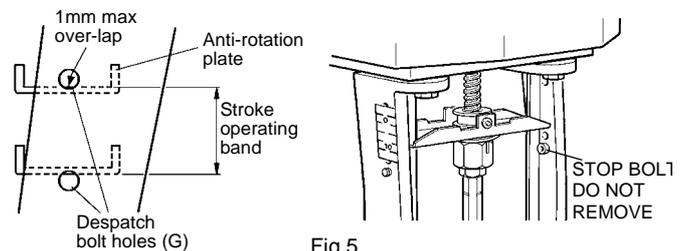

Fig.5
**ALL SPECIFICATIONS:** Whilst checking actuator travel over full valve stroke as detailed below, a visual check should be made to ensure that coupling-up to the valve is correct. The coupling anti-rotation plate must not be seen to over-lap the despatch bolt holes (G) by more than 1mm at either end of the stroke (Fig.5). If this is not correct, replace the despatch bolts (G), power fail, and repeat the appropriate fitting instructions given under 'Installation' on Page 5.
9. Whilst checking actuator travel over full stroke of valve, run actuator to fully retracted position. Select self-adhesive indication scale to match valve stroke, from set of three scales provided. Fix scale along outside edge of actuator mounting bracket, in position where it will be most clearly visible, lining up underside of anti-rotation plate on actuator spindle with position '0' on scale (Fig.5).
ALL SPECIFICATIONS: Whilst checking actuator travel over full valve stroke as detailed below, a visual check should be made to ensure that coupling-up to the valve is correct. The coupling anti-rotation plate must not be seen to over-lap the despatch bolt holes (G) by more than 1mm at either end of the stroke (Fig.5). If this is not correct, replace the despatch bolts (G), power fail, and repeat the appropriate fitting instructions given under 'Installation' on Page 5.